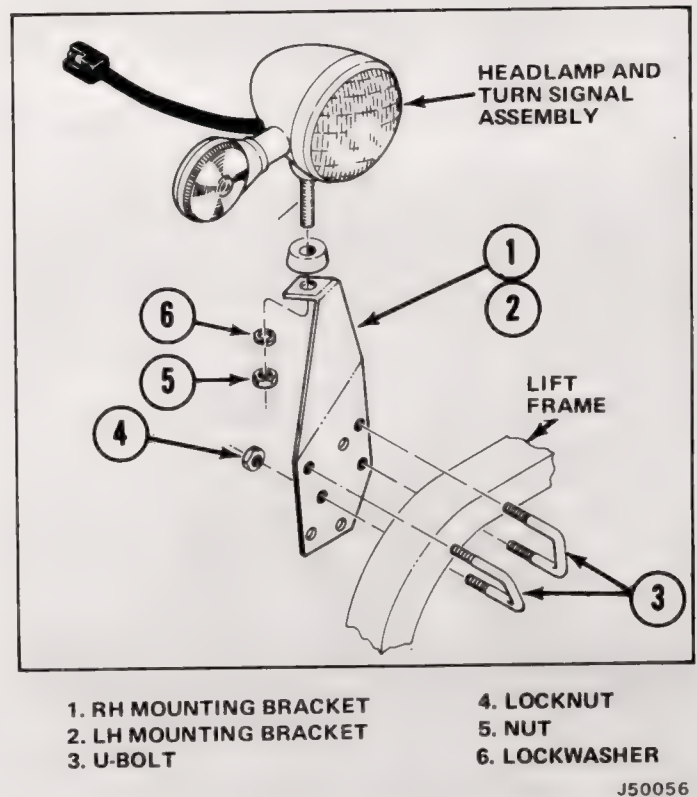
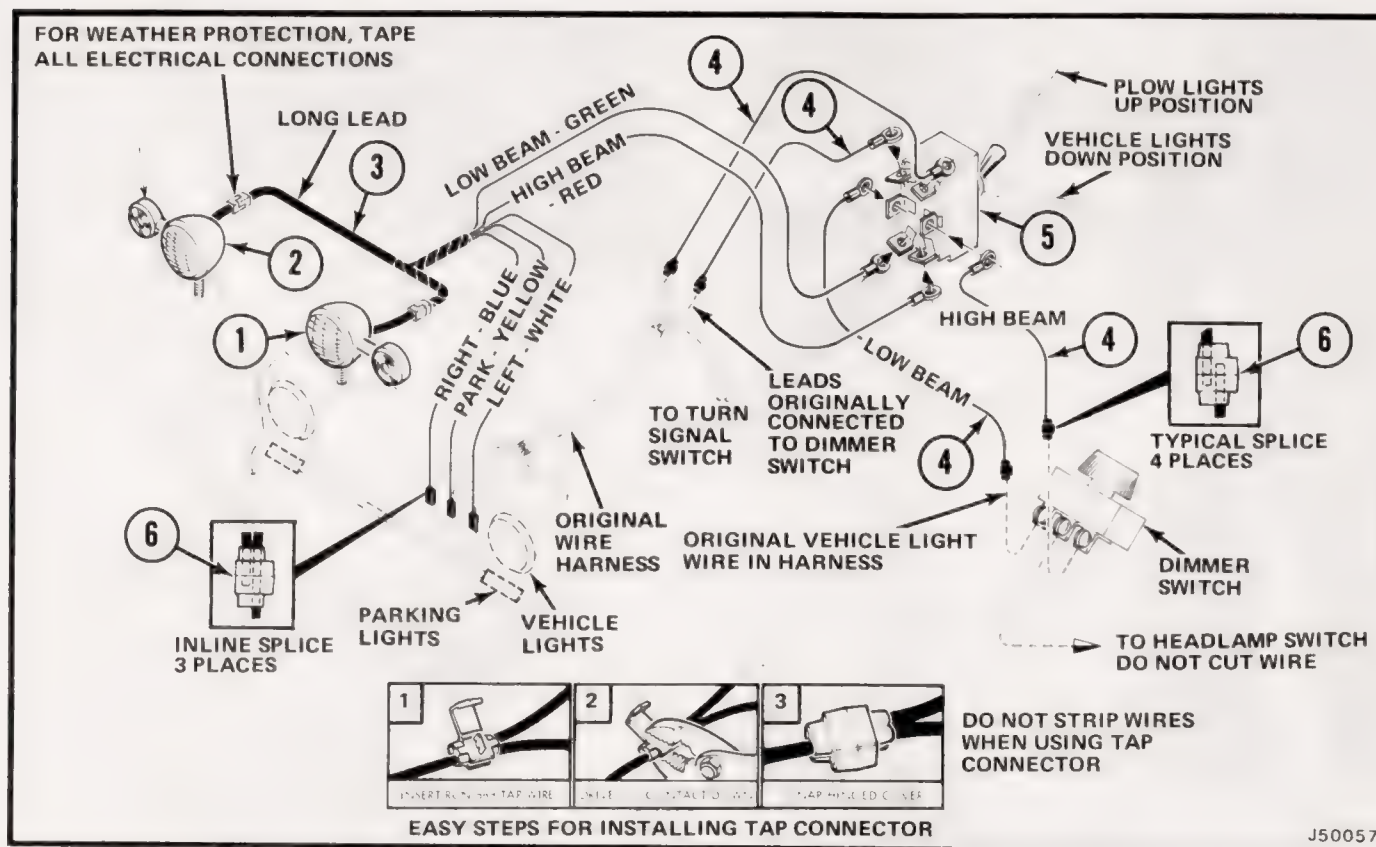
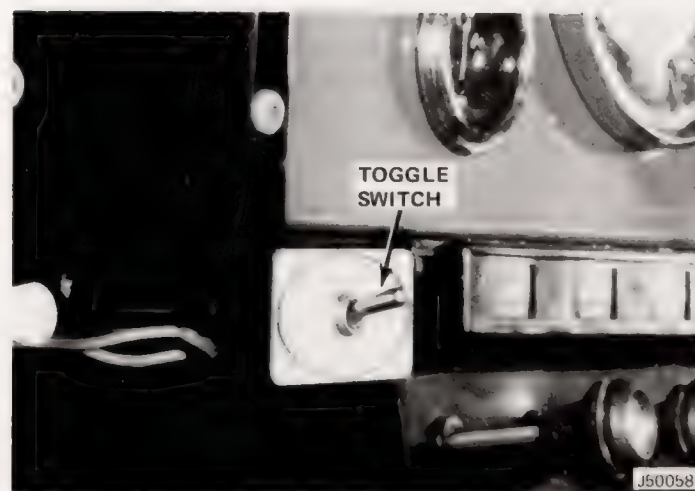

Fig. 1-16 Headlamp and Turn Signal Installation
Fig. 1-17 Headlamp and Turn Signal Wiring Installation
Fig. 1-18 Toggle Switch Installation
- (1) Disconnect negative battery cable.
- (2) Install headlamp brackets to lift frame with U-bolts and locknuts (fig. 1-16).
- (3) Attach headlamp and turn signal assembly to mounting brackets with lockwashers and nuts.
- (4) Install wiring harness (fig. 1-17). Route plug ends through opening at upper left-hand corner of radiator and connect wires to headlight and turn signal assemblies.
(6) Route remaining two wires, low beam (red) and high beam (green) back to firewall and through grommet to toggle switch.
(7) Connect red and green wires to toggle switch (fig. 1-17).
(8) Cut leads to dimmer switch and install tap connectors in four places.
(9) Connect four leads to toggle switch.
(10) Position toggle switch bracket in a suitable location on bottom edge of instrument panel (fig. 1-18). Drill holes and install bracket with self-tapping screws.
(11) Affix decal to face of mounting bracket and install toggle switch.
(12) Tape all connections in wiring installation.
(13) Connect negative battery cable and test installation.